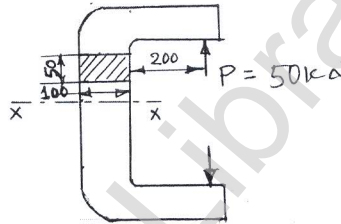

Fig.Q1(c)
- c. Determine extreme fiber stresses at section x - x of the machine member loaded as shown in Fig.Q1(c). Also show the distribution of stresses at this section. (10 Marks)